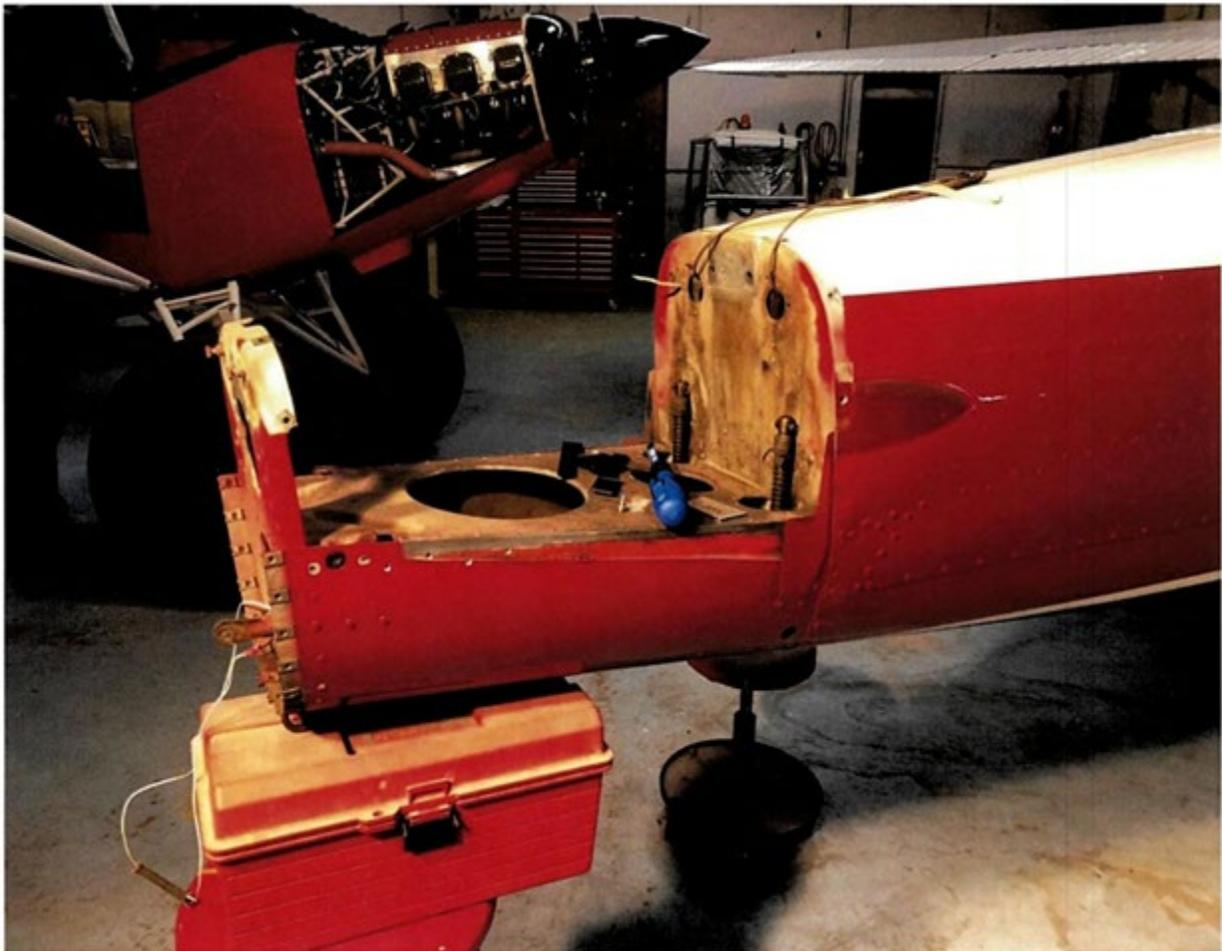

Figure 6: Prepared Aircraft
6. Disconnect attaching hardware for the horizontal stabilizer and elevators. Remove the horizontal stabilizer and elevators. The aircraft tail should now look like Figure 6.
Note: Figure 6 shows the tailwheel and stinger removed. Removal of the tailwheel and stinger are not required for installation of the tail cone reinforcement angle splice